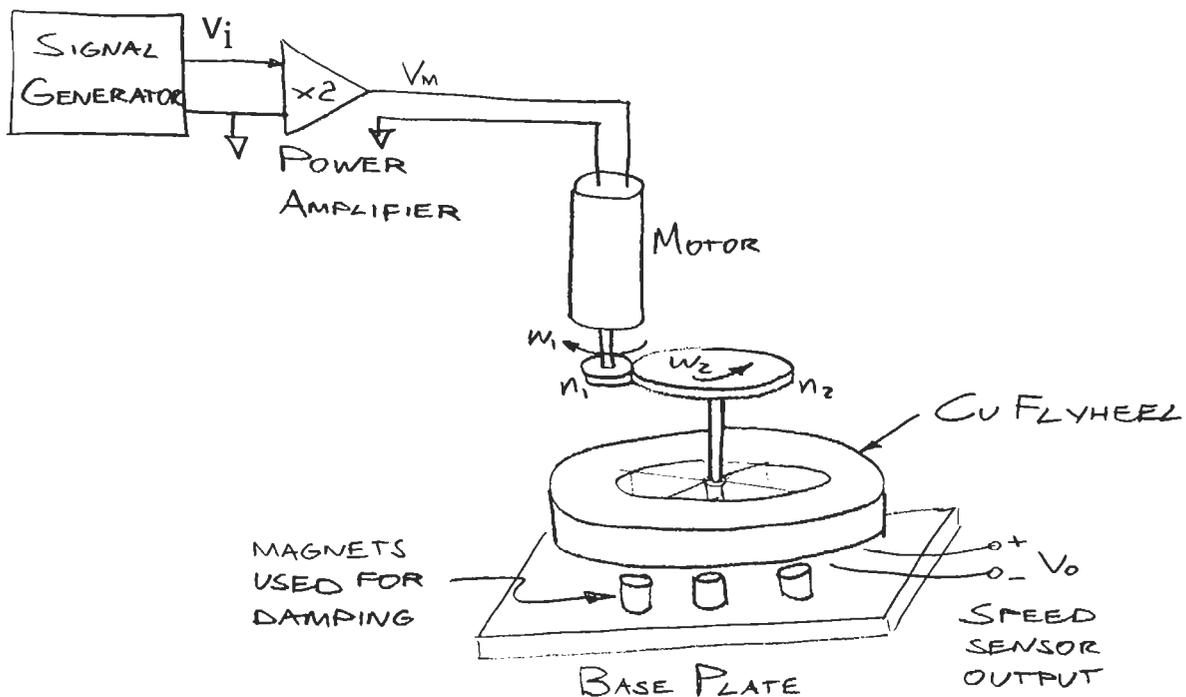

Figure 4: System configuration.
2. Now we want to look at the details of the motor and its drive amplifier. The system is configured as shown in Figure 4.
Figure 4 shows magnets on the baseplate which can be used for adding variable damping, which we will model as B [Nm sec/rad]. The flywheel inertia has the numerical value $J = 0.03$ [kg m²].